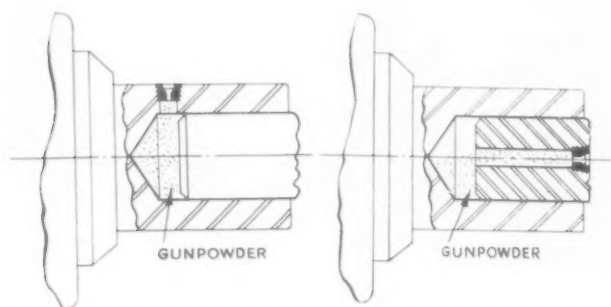

FIG. 1, above; FIG. 2, right, above; FIG. 3, right.
These fixtures are superficially similar, and also somewhat similar in principle, in that they employ springs or cam locks to clamp the work between a stationary base and a movable bushing plate. With the springs, tension is sufficient to securely clamp the work and to withstand any load for which the fixture is designed. A spring type jig of Siewek design is shown in Fig. 1. Note that the springs are housed inside the guide pins; and that pressure is exerted against a crank which, on being rotated slightly past top dead center, holds the jig open for loading. Fig. 2 shows a Siewek "Junior" spring jig, with engineering dimensions and data.
FIG. 1, left, Siewek Spring Type Jig. FIG. 2, below, Siewek Type "A" Junior Spring Jig, with engineering dimensions. Illustrations by courtesy of Siewek Tool Co., 2862 E. Grand Blvd., Detroit 2.
However, such parts can easily be removed "on the spot." If one knows the exact length of the shaft, in the hole, a hole can be drilled at right angles to the shaft, and just beyond the end of the stub, as shown in Fig. 1. Tap the drilled hole with a pipe tap, and insert a steel plug which has a smaller hole drilled in it.
If the length of the stub is not known, then drill a hole lengthwise, as shown in Fig. 2. Ram in the powder with a wooden stick, plug up the end as in Fig. 1, and proceed as before. As a precaution against possible accident, a sand-bag can be disposed to catch the part as it is ejected.
If the depth of the hole is known, a hole can be reamed at right angles, as suggested in Fig. 1, when a heavy oil can be used instead of grease. In either event, a very close fit between the reamed hole and the drift is necessary, else the "hydraulic fluid" will leak out.
WHEN HOLES (A) are to be tapped in thin sheet stock (Fig. 1), as for electrical contacts and similar parts, it is customary to first punch a small hole (as "d" in Fig. 2) and then to draw the stock out to the nominal tap drill size. As such parts are usually mass produced, the tools are mounted in a punch press, with punch and die accurately aligned. By this method, one obtains several threads instead of the single or fractional thread which would be the limit in the stock thickness.